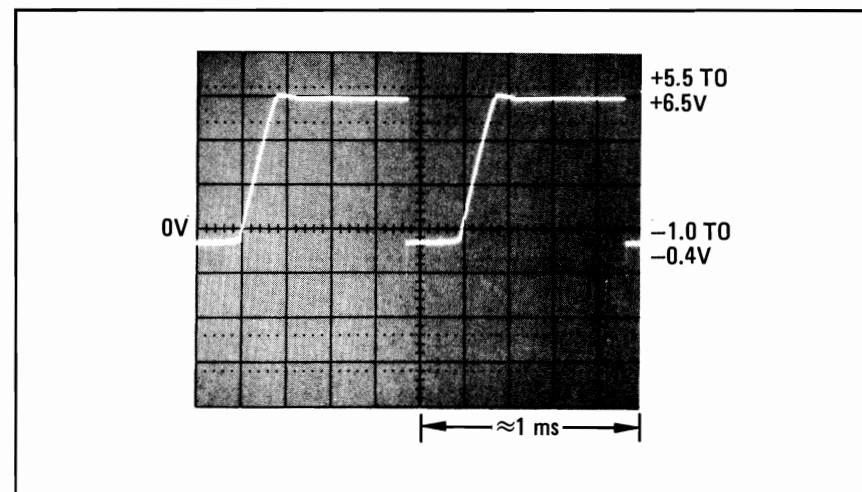

Figure 8-79. Oscillator Leveling Check Waveform C
5. Connect the oscilloscope to A5TP3 (S/H). The waveform should be as shown in Figure 8-79.